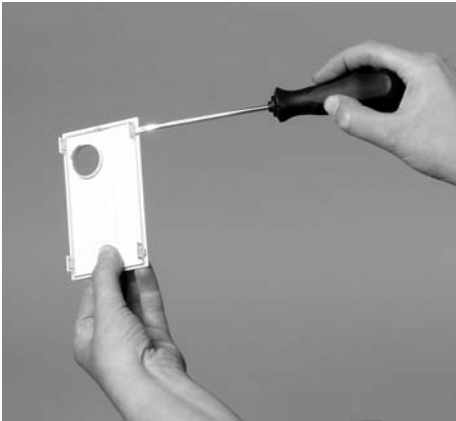

Fig.1 Plastic fascia plate with holding tabs
- Carefully remove the plastic fascia plate from the inside of the front panel (Fig.1).